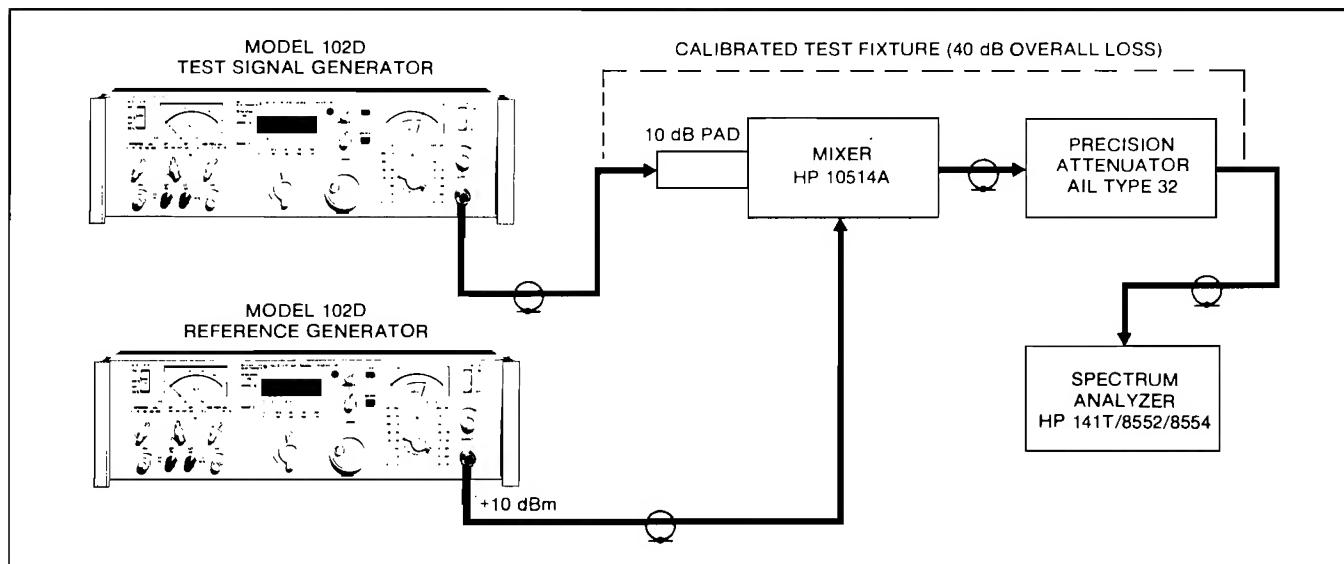

Figure 2-17 Output Level Accuracy Check, Test Setup
h. Connect the Model 102D and test equipment as shown in Figure 2-17. Set the controls of the test Model 102D and the reference Model 102D as shown in Table 2-3.